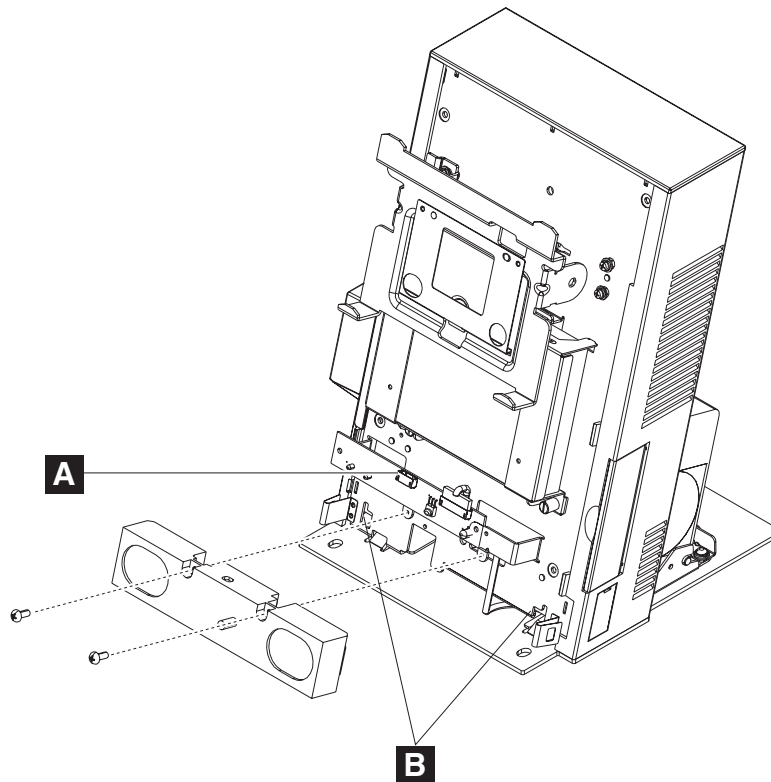
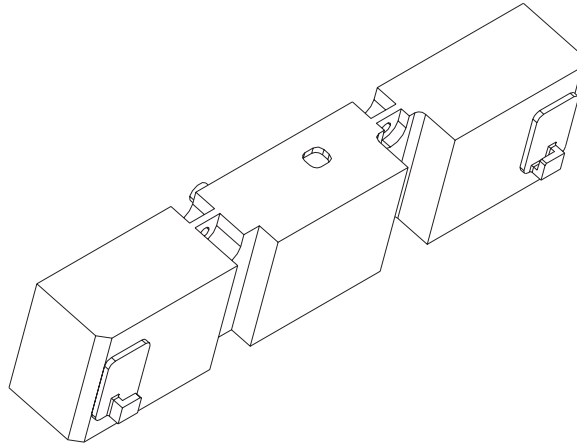
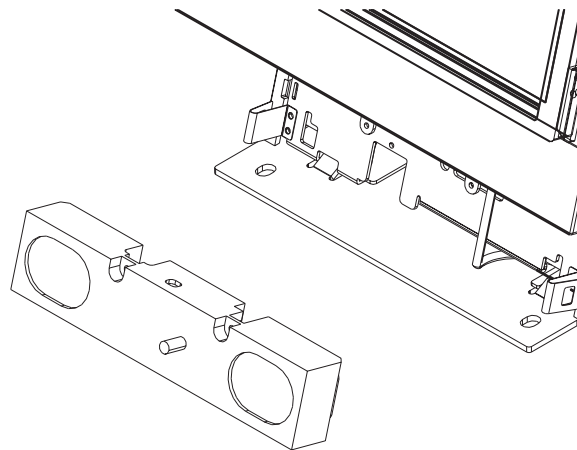

Figure 34. Speaker removal
Figure 35. Speaker hooks
Figure 36. Keyhole slots for speaker hooks
Refer to Figure 34 on this page and Figure 35 on page 56.
3. Remove the two screws from the speaker as shown in Figure 34.
Note: The speaker hooks (see Figure 35 on page 56 and Figure 36 on page 56) must fit into the keyholes in the frame **B** in Figure 34, or the HDD cover will not close properly.